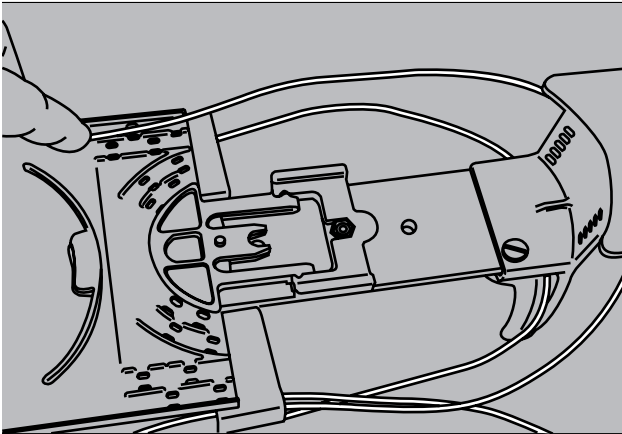

FIGURE 4
4. Organize the loose buffer tube without stress or undue bending to enter the SLIDE-N-LOCK splice tray. (Figure 4)